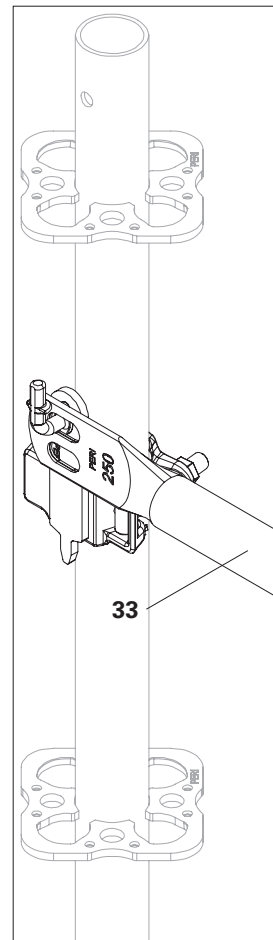

Fig. A11.04b
2. Hang the Guardrail Posts EPG (**33**) and intermediate guardrails on the guardrail hooks. (Fig. A11.04b)